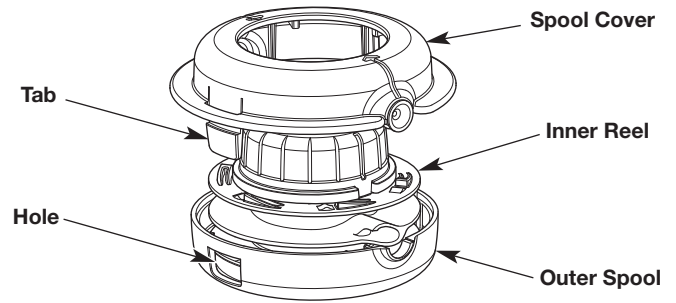

Fig. 17
1. Firmly press in the tabs on the cutting head (Fig. 17).
2. Remove the spool cover (Fig. 17).
4. Use a clean cloth to clean the inner reel, outer spool and spool cover (Fig. 17).
5. Align the tabs on the spool cover with the holes on the outer spool (Fig. 17). Push the spool cover onto the outer spool until the tabs securely snap into the holes.